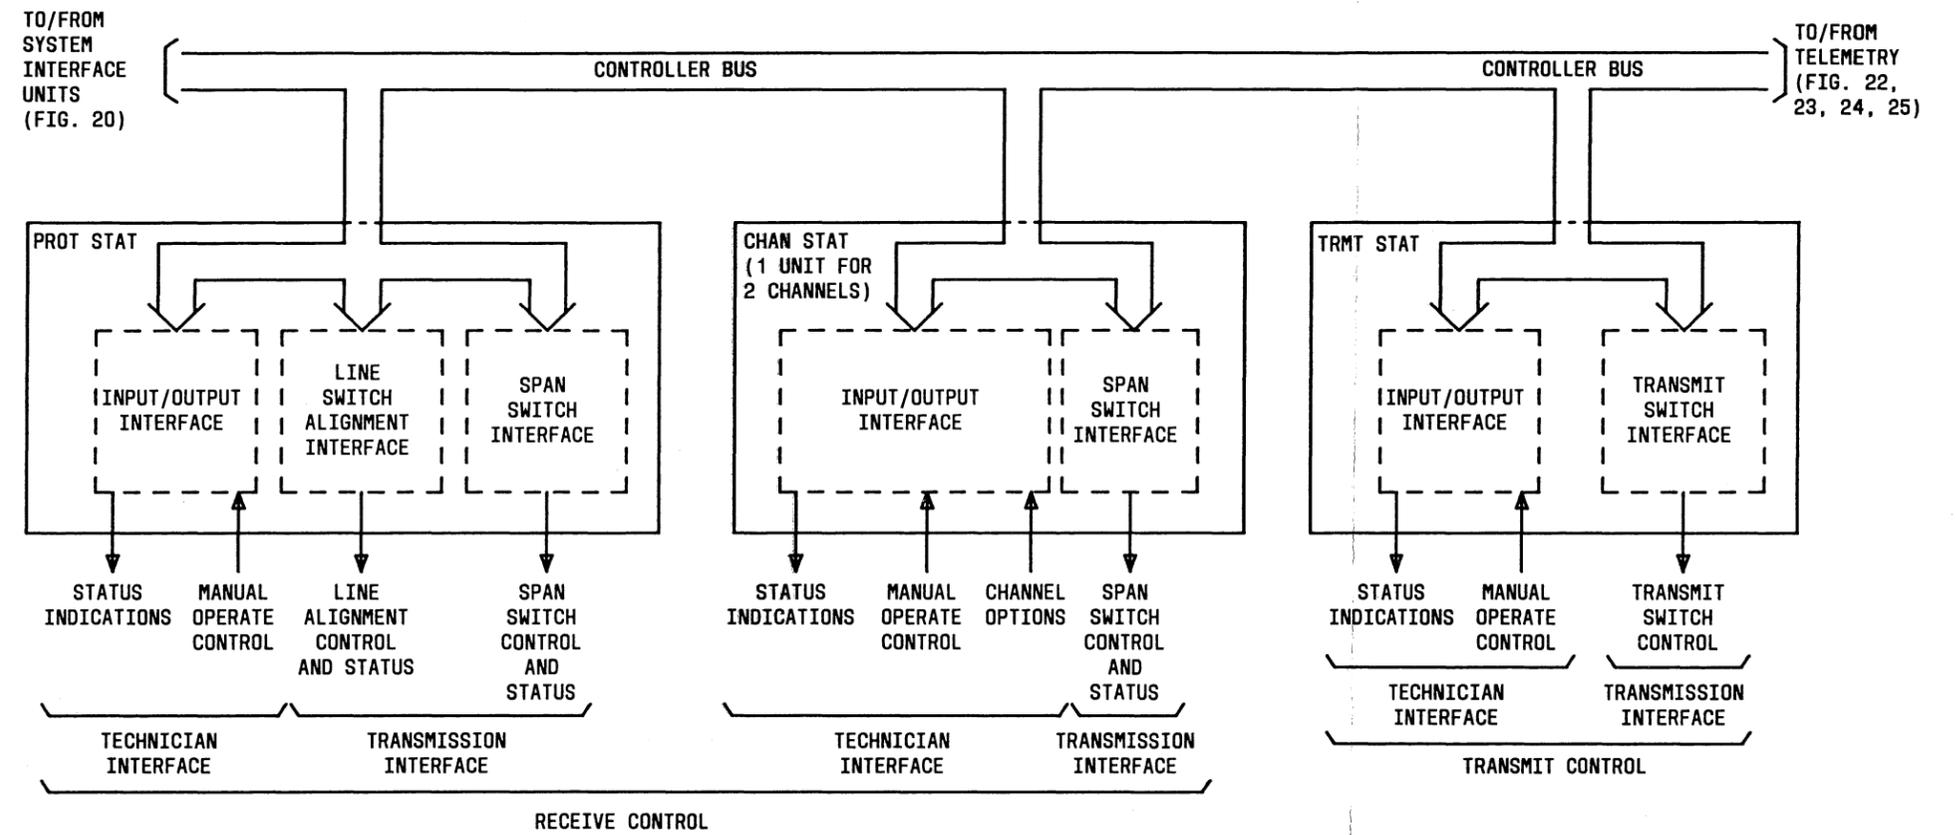

Fig. 21—Channel Status and Control Units
- Figure 21—Channel Status and Control Units